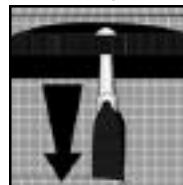

Figure 27
2. Push WA-11 toggle completely down through webbing slot. **See figure 27.**